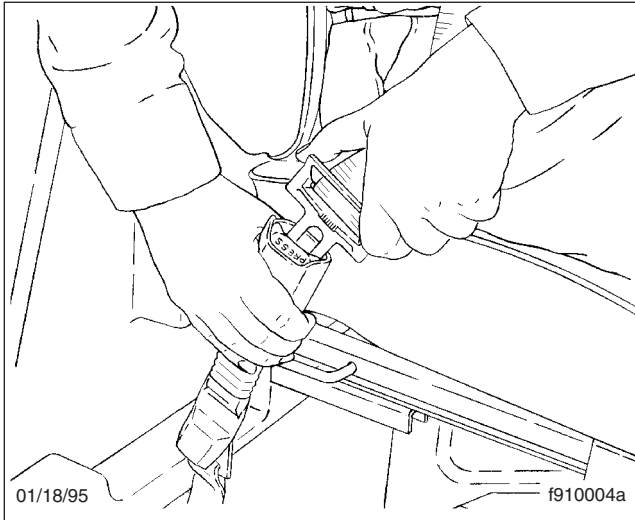

Fig. 5.8, Fastening the Three-Point Belt
2. Fasten the three-point seat belt by pushing the link into the buckle until it latches (**Fig. 5.8**). Give the belt a tug at the buckle. If the buckle unlatches, repeat this step. If the problem continues, replace the three-point seat belt.
2. Fasten the three-point seat belt by pushing the latch into the buckle. Listen for an audible click. See Fig. 5.8.